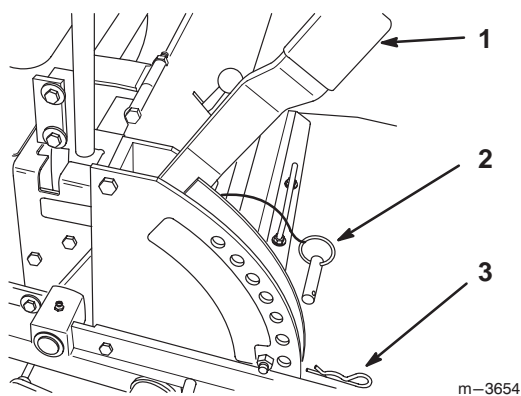

Figure 11
1. Raise the height-of-cut lever to the transport position (also the 4-1/2 inch (114 mm) cutting height position) (Fig. 11).
2. To adjust, remove the hairpin cotter and clevis pin from the height-of-cut bracket (Fig. 11).
3. Select the hole in the height-of-cut bracket corresponding to the height-of-cut desired, and insert the clevis pin (Fig. 11).
4. Secure the clevis pin with the hairpin cotter (Fig. 11).